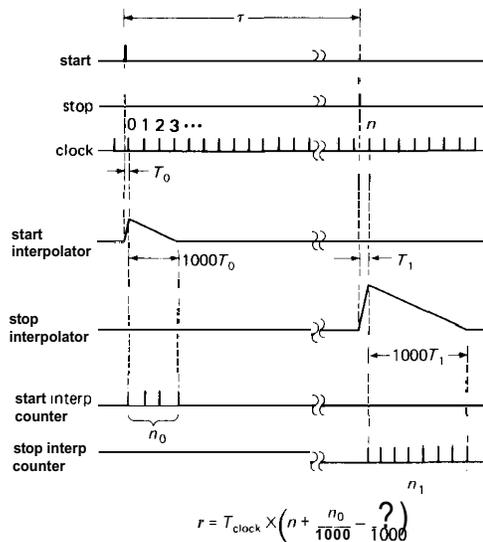

Figure 15.32. Linear interpolation (time-interval measurement).
- *Linear interpolation.* Suppose you wish to measure the time interval between the start and stop pulses in Figure 15.32. You begin by measuring the number of